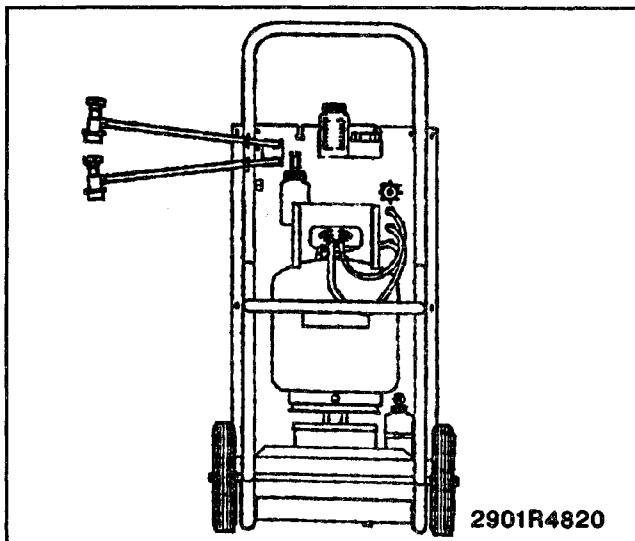

Figure 16—Complete Operational Set-Up
1. Connect high side (red) and low side (blue) hoses to the ACR4 unit (Figure 16). Make sure to route hoses through hose reel bracket grommets.